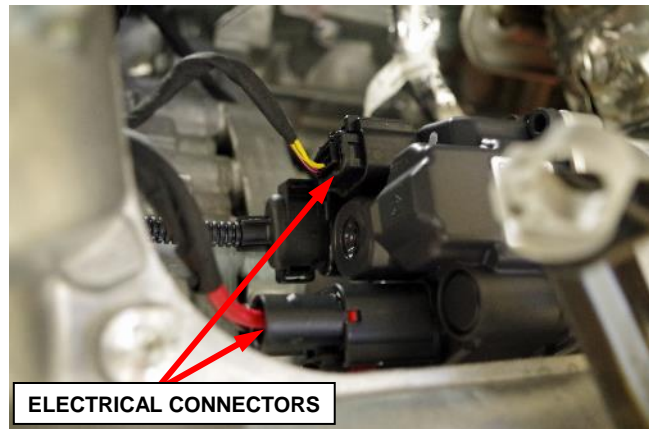

Figure 78 – Electrical Connectors
55. **AWD/4WD only:** Disconnect the two vehicle wire harness electrical connectors from the steering gear (Figure 78).
15. **AWD/4WD only:** Connect the two vehicle wire harness electrical connectors to the steering gear (Figure 78).